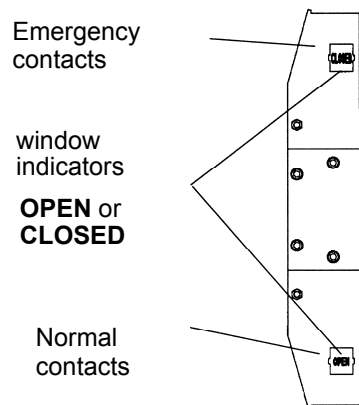
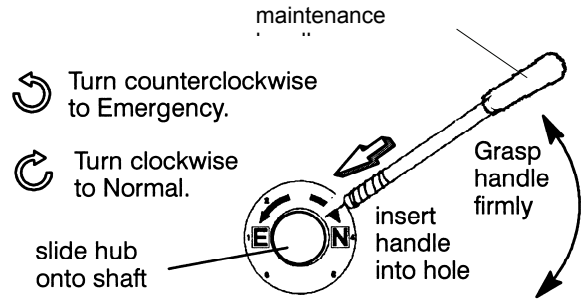

Figure 2. Main contact position indicators on right side.
Figure 3. Maintenance handle on 3ATS & 3NTS.
1. After deenergizing both power sources, open the enclosure door. Locate and remove the maintenance handle from the clip on the left side of the transfer switch. See Figures 3, 4, and 5. See Figure 2 for the contact position indicators.